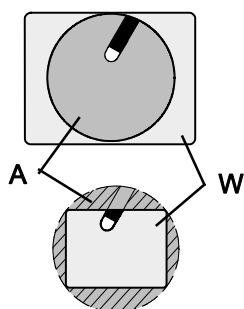

Fig. 2
Depending on the focal length of the objective lens, image information of the endoscope (A) cannot be detected on the image sensor (B) (Fig. 2). Depending on the use and system combination, the brightness control must be adjusted.